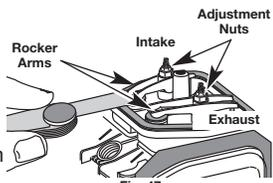

Fig. 47
7. Slide the feeler gauge between the rocker arm and the valve return spring. Measure the clearance between the valve stem and rocker arm (Fig. 47). Measure both the intake and exhaust valves.
The recommended clearance for both intake and exhaust is **.003 – .006 in. (.076 – 0.152 mm)**. Use a standard automotive .005 in. (0.127 mm) feeler gauge. The feeler gauge should slide between the rocker arm and valve stem with a slight amount of resistance, without binding. See Figures 47 and 48.